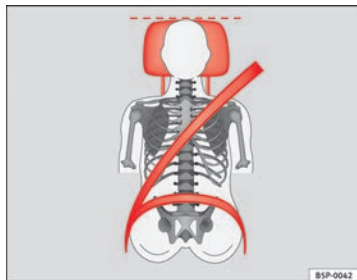
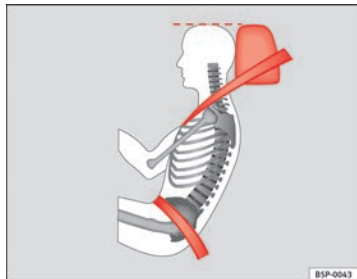

Fig. 3 Properly adjusted head restraint viewed from the front
Fig. 4 Properly adjusted head restraint viewed from the side
- Adjust the head restraint so that its upper edge is at the same level as the top of your head or as close as possible to the same level as the top of your head and, at the very least, at eye level ⇒ fig. 3 and ⇒ fig. 4.